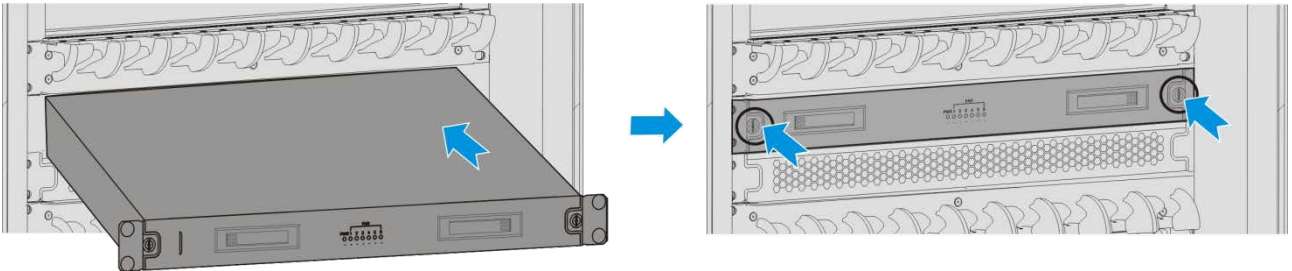

Figure 3-11 Installing the FAN
**Step 4** Install the FAN as shown in Figure 3-11.